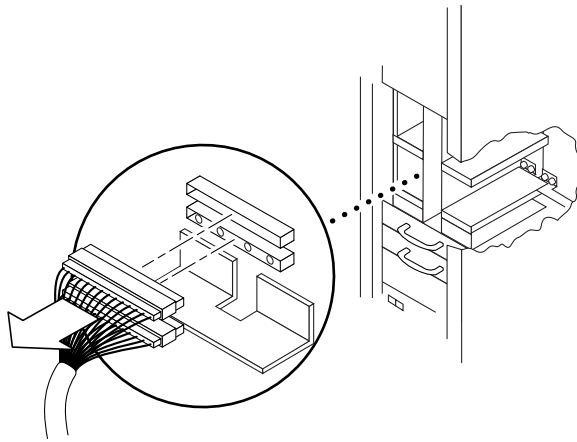

FIGURE 12-5 Disconnecting the Two Cables From the System Centerplane—Sun Fire 6800 System
10. Disconnect the two cables from the system centerplane (FIGURE 12-5).